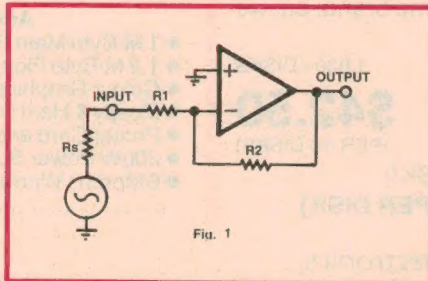
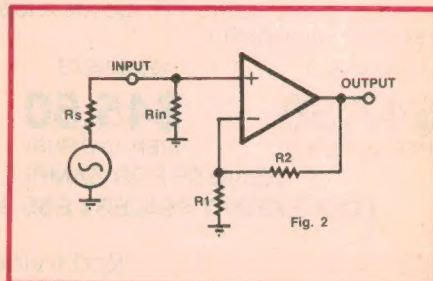

Fig.1: inverting op amp stage.
Fig.2: non-inverting op amp stage.
The input resistance has to be determined from the circuit of the gain stage in question and here a little analysis is needed. Note that the input resistance is not the same as the input impedance for the circuits of Fig.1 and Fig.2.
There are two common types of op amp gain stages: (1) the inverting stage as shown in Fig.1; and (2) the non-inverting stage as shown in Fig.2. The input impedance of the inverting type is equal to R_1 , while the input impedance of the non-inverting type is equal to R_{in}
Don't worry if your circuit has capacitors in series with the input or feedback ground (Fig.2) as normally these can be neglected.
In Fig.1, the input resistance is equal to R_1 in parallel with R_2 . If R_2 is more than ten times R_1 , then just use the value of R_1 .
For Fig.2, the input resistance is the same as for Fig.1 (ie, R_1 in parallel with R_2), but if R_{in} is less than ten times R_1 then calculate R_{in} in parallel with R_1 and R_2 as well. If there is a resistor in series with the input, add this to the input resistance.